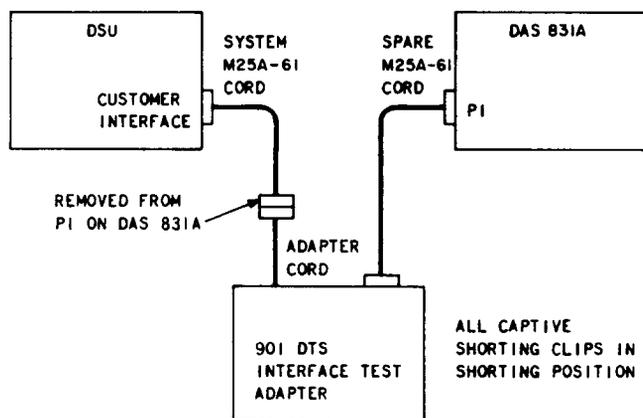

Fig. 6—Setup for DSU/DAS Interface Test Using Interface Test Adapter
- (a) Prepare the test setup as shown in Fig. 6.